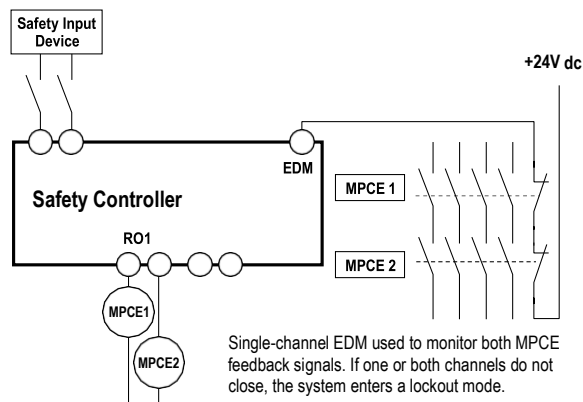

Figure 26: One-channel EDM hookup
The level of the safety circuit integrity must be determined by risk assessment; this level is dependent on the configuration, proper installation of external circuitry, and the type and installation of the devices under control (FSDs and MPCEs). The safety relay outputs are suitable for Category 4 PL e / SIL 3. See Figure 26 on p. 45 for hookup examples.
- **One-Channel Monitoring**—A series connection of closed monitor contacts that are forced-guided (mechanically linked) from each device controlled by the Safety Controller. The monitor contacts must be closed before the Safety Controller outputs can be reset (either manual or automatic). After a reset is executed and the safety outputs turn On, the status of the monitor contacts are no longer monitored and may change state. However, the monitor contacts must be closed within 250 milliseconds of the safety outputs changing from On to Off. See Figure 26 on p. 45.